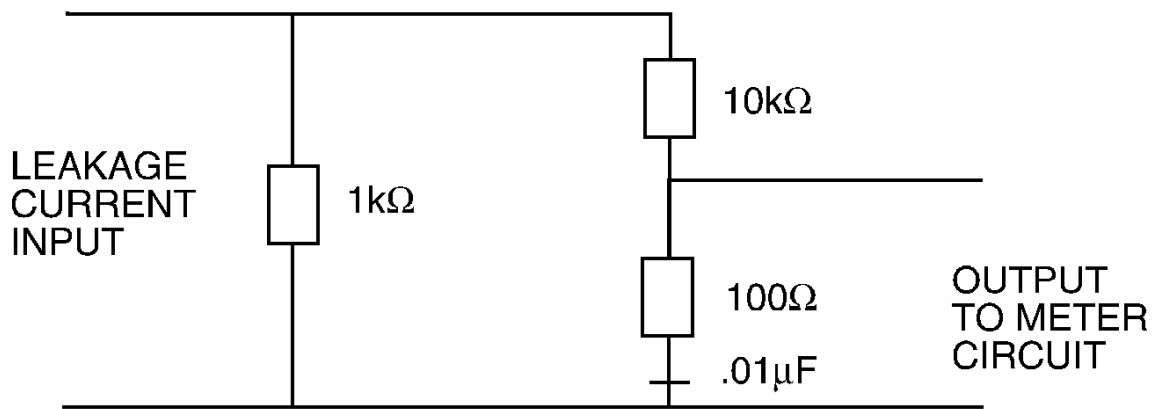

Figure 1-1. AAMI load diagram.
e. **Advancement of Medical Instrumentation Load.** The simulated patient load is recommended by the Association for the Advancement of Medical Instrumentation (AAMI), Safe Current Limits Standard (ANSI/AAMI ESI-1985) (revision of ANSI/AAMI SCL-12/78). The AAMI load aids in determining the actual voltage or unit shocks to the patient. If there is no load, there is no current. Figure 1-1 shows the load. The result is a frequency response which is flat to the 1 kiloHertz (kHz), then rolls off at 20 decibel (dB) per decade, and levels off at 1 megaHertz (mHz) attenuated by the 40dB. The measurement circuit adds an additional roll off at approximately 3dB at 1mHz. Measurement of accuracy is one percent of range from 40Hz to 1000Hz, 2.5 percent of range from 1kHz to 100kHz, and 5 percent of range from 100kHz to 1mHz.